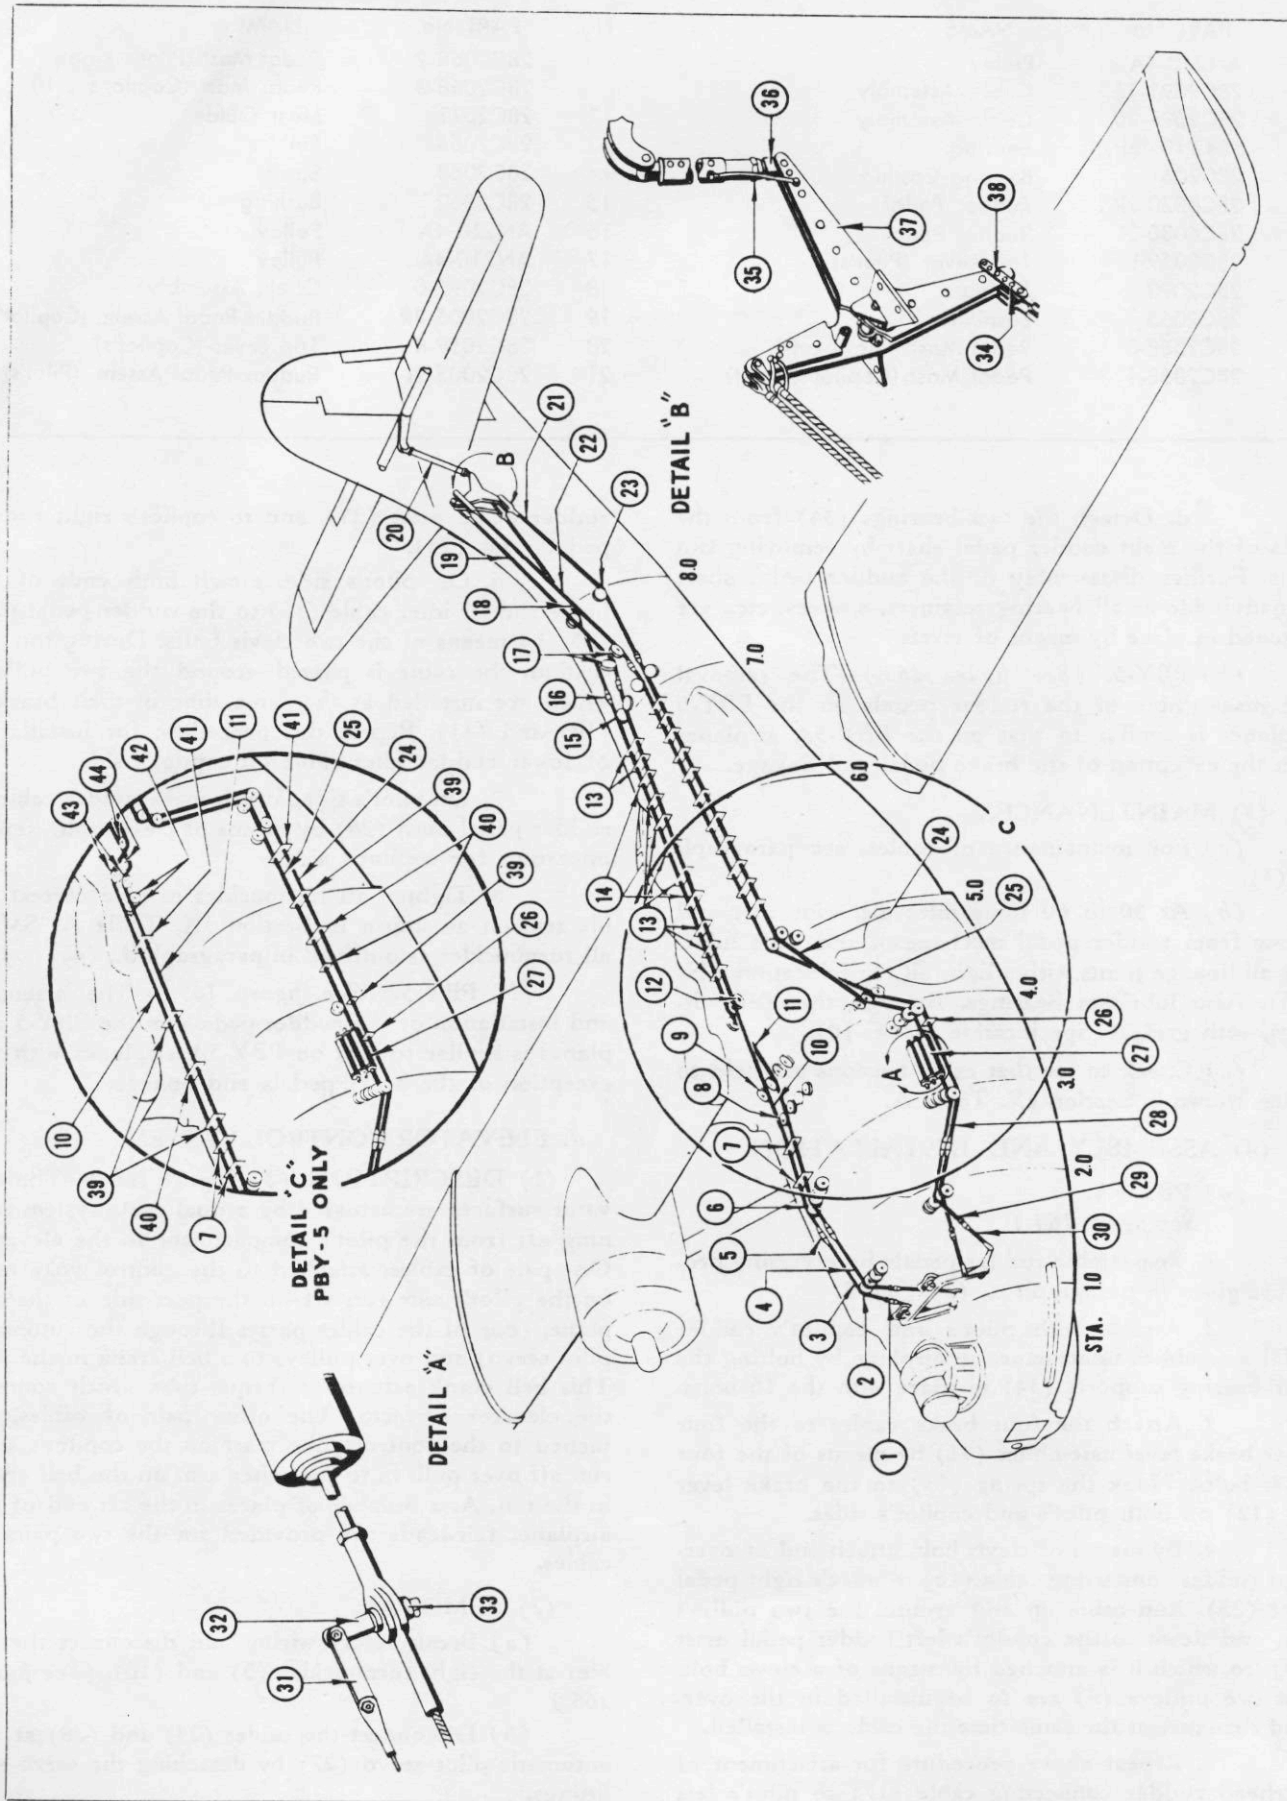

Figure 166—Elevator Control Cable System
(1) **DESCRIPTION.** (See figure 166.)—The elevator surfaces are actuated by a dual cable system running aft from the pilot's compartment to the elevator. One pair of cables, attached to the control yoke mast on the pilot's side run aft on the port side of the airplane, (one of the cables passes through the automatic pilot servo) and over pulleys to a bell crank in the tail. This bell crank actuates a torque tube which controls the elevator surfaces. The other pair of cables, attached to the control yoke mast on the copilot's side, run aft over pulleys to the other arm on the bell crank in the tail. At a number of places in the aft end of the airplane, fair-leads are provided for the two pairs of cables.
(a) Break safety wiring and disconnect the cables at the eight turnbuckles (5) and (16). (See figure 166.)